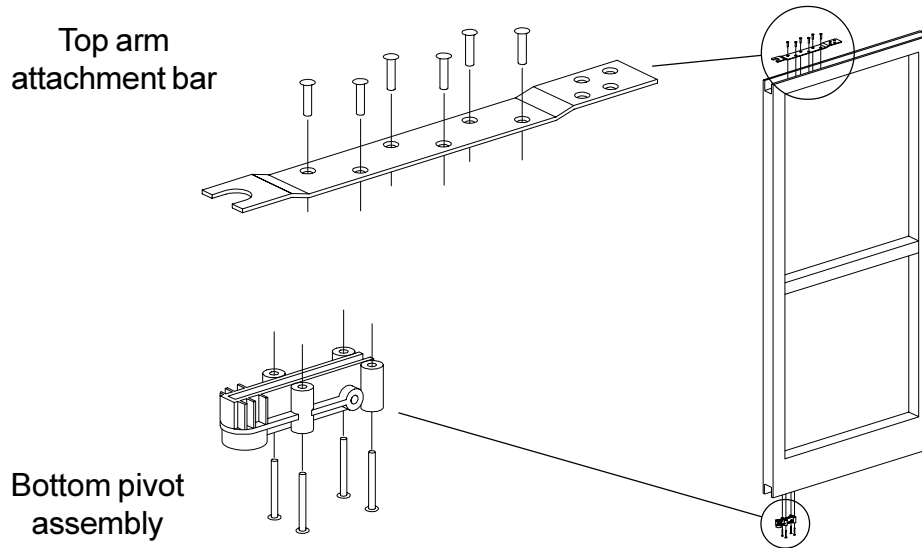

Figure 11-1
- 11.2. For center pivoted doors, install top arm attachment bar and bottom pivot assembly using screws supplied with those components (Figure 11-1).